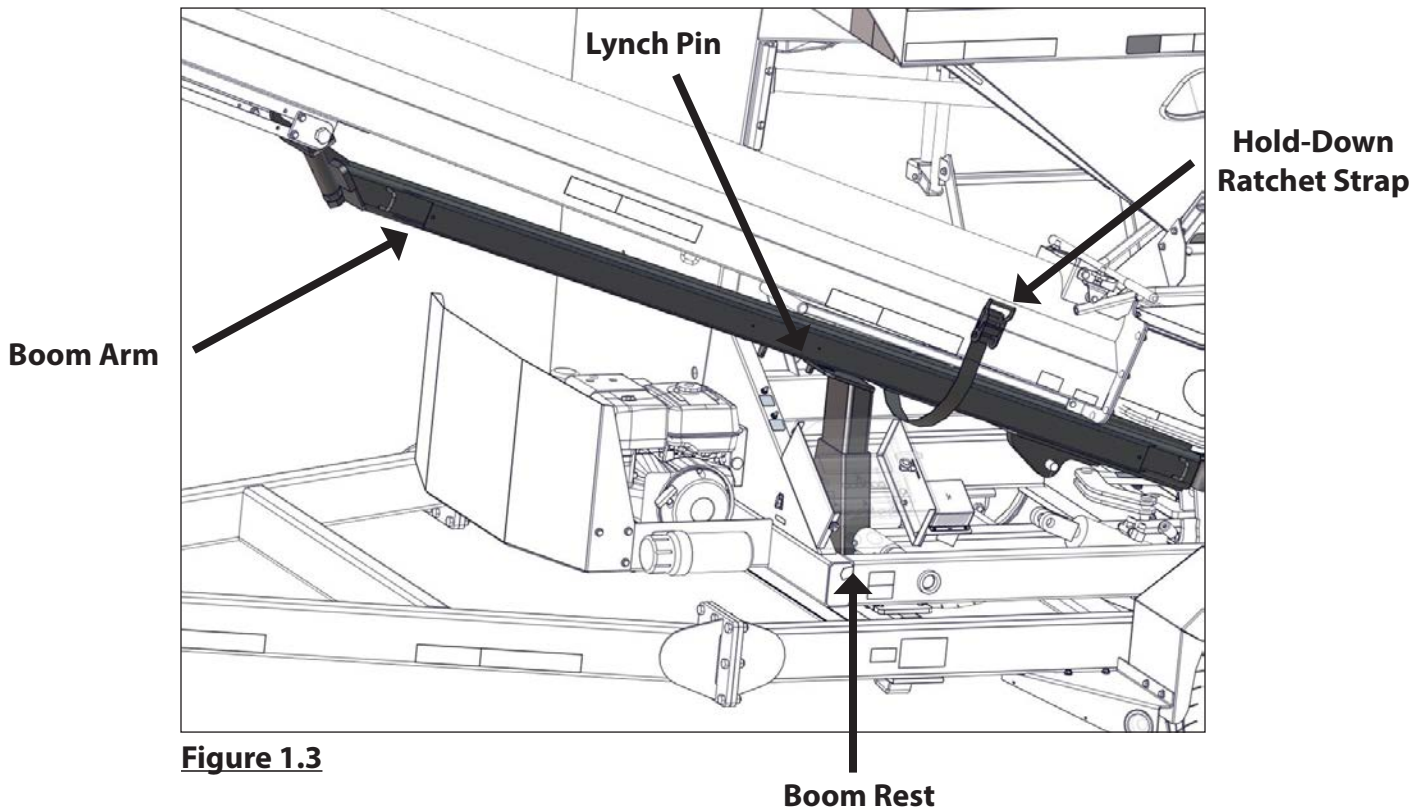

Figure 1.3
2. Remove lynch pin from Boom Arm. (Figure 1.3).
1. Remove lynch pin from Boom Arm (Figure 1.3).
7. Undo the conveyor hold down ratchet strap (Figure 1.3).
19. Place the conveyor hold down ratchet strap around the conveyor and tighten the strap (Figure 1.3).
4. Move the boom lock handle to the unlock position. This will allow the boom to swing (Figure 1.3).
14. Place the conveyor hold down ratchet strap around the conveyor and tighten the strap (Figure 1.3).